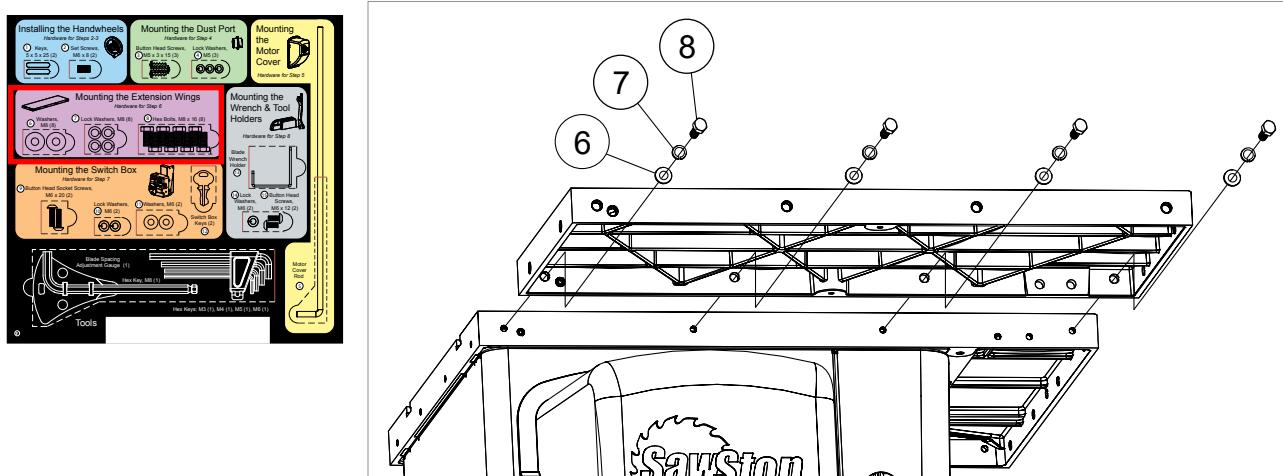

Fig. 26
6. The hardware required to mount the cast iron extension wings to the cast iron table top is located in the area with the purple background on the Table Saw Hardware Pack. Position one of the extension wings next to the left side of the cast iron table with the chamfer toward the front and align the holes in the side of the wing with the four threaded holes on the side of the table (see Fig. 26). Mount the left extension wing with four M8 washers, four M8 lock washers and four M8 x 20 hex bolts, but do not tighten. Repeat the same procedure to mount the other extension wing to the right side of the table.